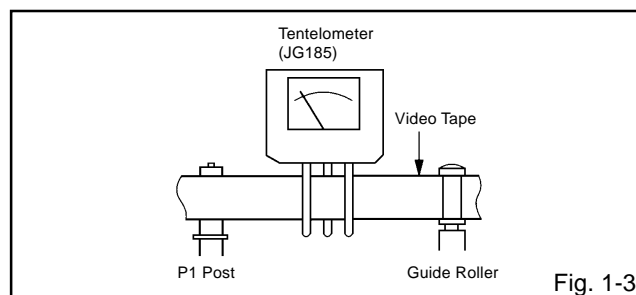

Fig. 1-3
- Install the tentelometer (**JG185**) as shown in **Fig. 1-3**. Confirm that the meter indicates  $20 \pm 2\text{gf}$  in the beginning of playback.